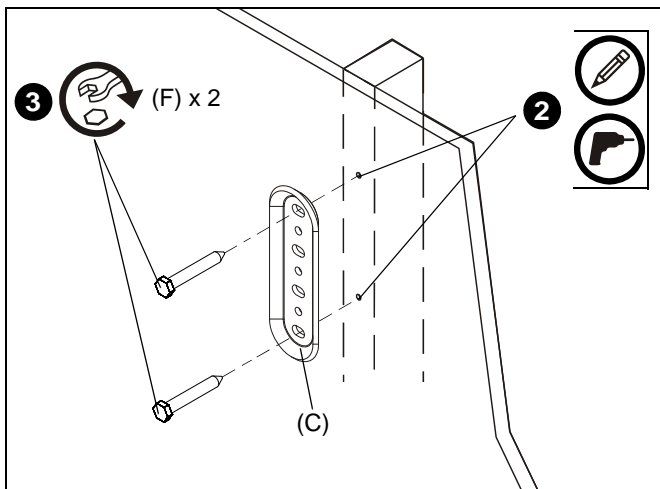

Figure 1
2. Using wall plate (C) as a template, mark then drill two 1/8" diameter pilot holes through top and bottom holes of wall bracket into wall structure. (See Figure 1)
3. Install two 3/8" x 3" hex head lag screws (F) through wall plate (C) and drywall into wood stud. (See Figure 1)
4. Ensure wall plate (C) is vertical, then tighten screws (F).